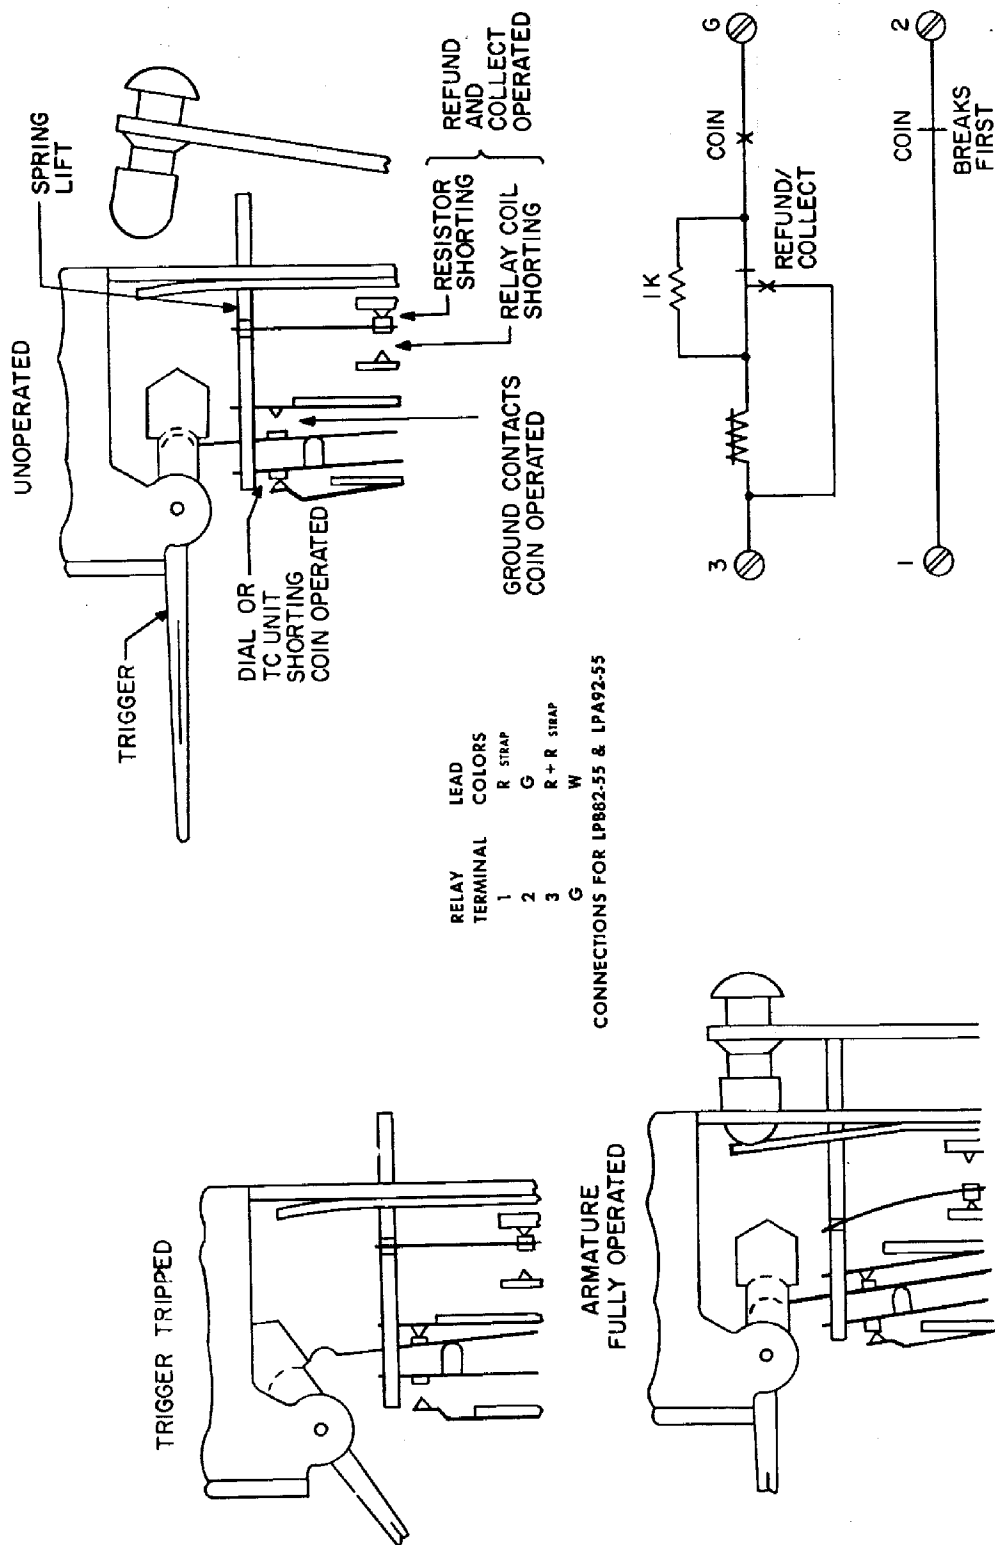
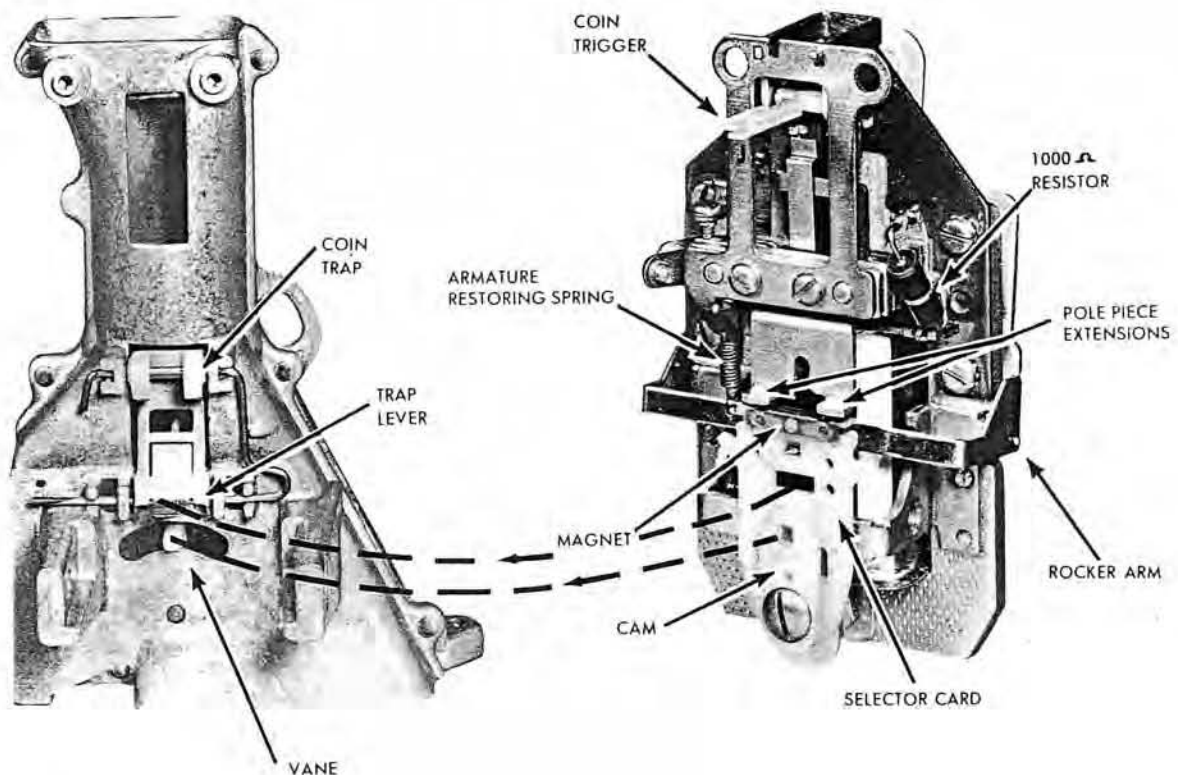

Figure 2. Coin Relay Contact Spring Assembly and Schematic.
Figure 5. P10E755 Hopper, and Rear View of P10E786 Relay.
the P10E786 relay and P10E755 hopper specified in Figure 5 the A.E.Co. equivalents are relay P-60702 and hopper P-60703. Dust cover P10E783, mentioned in Paragraphs 2.01, 3.01 and 4.03, is the same as A.E.Co. dust cover P-51942. The P10E810 Sems fasteners and P10E752 hex head screws detailed in Paragraphs 4.01 and 4.03 are listed by A.E.Co. as upper coin relay mounting screw D-761037-A and lower coin relay mounting screw D-761036-A, respectively. Terminal G, referred to in Paragraph 2.02(2) and Figure 2, is designated as terminal 4 in the A.E.Co. assembly.
2.03 In factory-assembled coin telephone sets using the P-60701 relay and hopper, the green lead from transfer spring 5 is connected to relay terminal 1, rather than to terminal 2 as shown in Figure 2. The strap from relay terminal 3 is connected to relay terminal 2, rather than to terminal 1, and is made of brown wire rather than red.
- (a) Trip the coin trigger and make visual inspection of the contact springs. The ground contacts (see Figure 2) should make firmly. Verify by feel, using an orange stick.
- (1) Make a visual check of the dial shorting contacts. With the coin trigger unoperated, the contacts should be held closed, and the rear spring should exhibit perceptible follow beyond its stop spring, as shown in Figure 2. With the trigger tripped, the buffer on the front spring is free to move forward, and the contacts should be open (rest position).
- (1) If the relay is being reinstalled after removal, first clean the selector card and pole piece extensions as explained in Paragraph 4.02.
- (2) With a finger inserted in the coin return opening at the left of the hopper, hold the hopper vane vertical.
- (3) Trip the relay trigger and rest the relay mounting brackets in the grooves on the inner surfaces of the projecting arms cast into the front of the hopper base.
- (4) Slide the relay back, guiding the trigger into the hopper slot, until the tab of the trap lever barely engages the slot in the selector card (see Figure 5).
- (5) Aligning the vane as necessary, slide the relay farther back so that the stem of the vane engages the hole in the relay cam.
- (6) Check to be sure that the bosses at the top of the hopper enter the holes in the trigger-support bracket. If distortion of the bracket prevents this, return the relay to the shop for repair and install another one.
- (7) Align the holes in the relay mounting bracket with the holes in the arms projecting from the hopper, and insert two P10E752 (10-32 x 3/8") slotted hex head machine screws.
- (8) Insert two P10E810 (4-40 x 7/32") external-tooth Sems fasteners through the holes in the trigger-support bracket and into the threaded holes at the top of the hopper.
- (9) Tighten each pair of mounting screws evenly. While tightening the upper screws, check to be sure that the trigger pivot pins have some end play, and are not binding in their bearing holes. If the trigger binds, loosen the upper mounting screws and check again for binding. If the trigger moves freely with the upper mounting screws loose, retighten the screws evenly. If the trigger then binds again, replace the relay.
- (10) Check to be sure that the relay armature, coin trap and hopper vane operate and release without binding. If binding is noted, loosen the lower mounting screws and retighten them evenly. If binding is still evident, replace the relay.
- (11) If no further tests are required, snap the P10E783 styrene cover in place on the trigger support bracket.